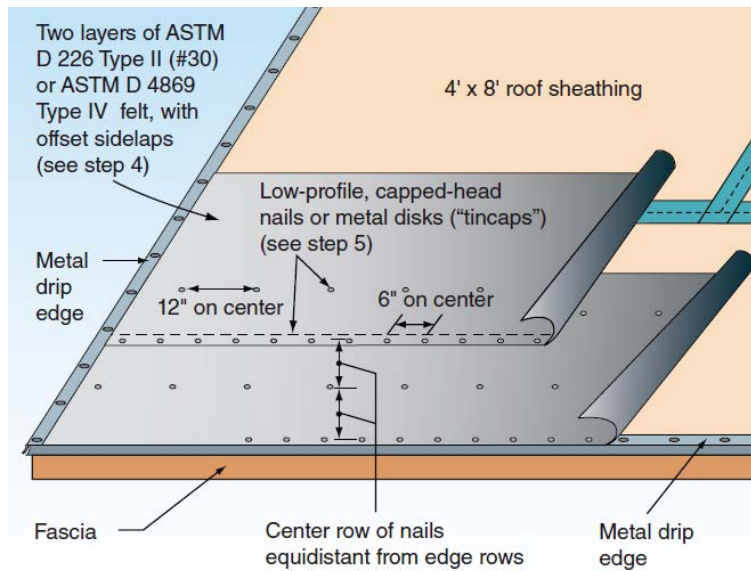

Figure 3.3.1.6. Strong underlayment installation details applied to asphalt shingle roof sheathing in high-wind regions.
- Ensure shingles are attached correctly, as shown in Figure 3.3.1.7. Ensure nails are adequately driven as shown in Figure 3.3.1.8.